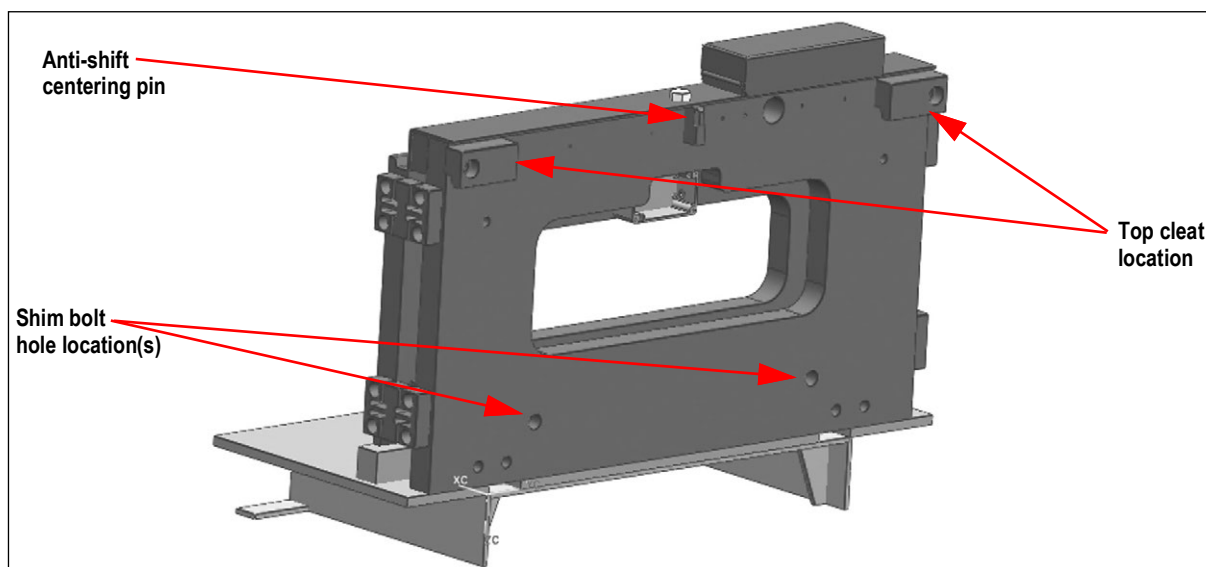

Figure 2-4. Anti-shift Centering Pin, Shim Bolts and Top Cleat Locations
4. Carefully and slowly raise the scale carriage slightly so the top cleats (Figure 2-4) hook onto the forklift carriage. If they do not hook, carefully push the scale toward the forklift as it is being raised.